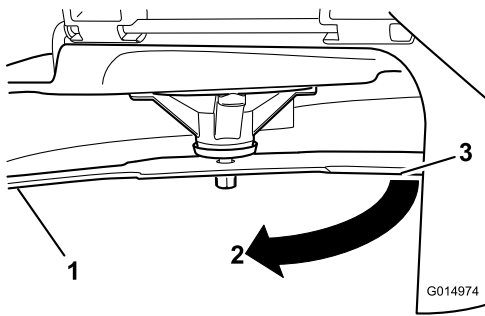

Figure 92
4. Rotate the same blade 180 degrees so that the opposing cutting edge is now in the same position (Figure 92).